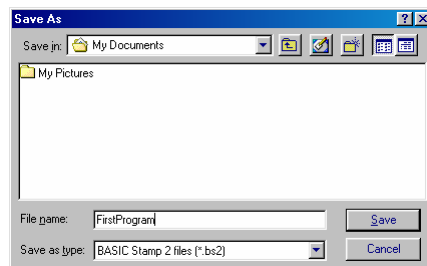

Figure 1-38
- ✓ Enter the name *FirstProgram* into the *File name* field near the bottom of the *Save As* window as shown in Figure 1-38.